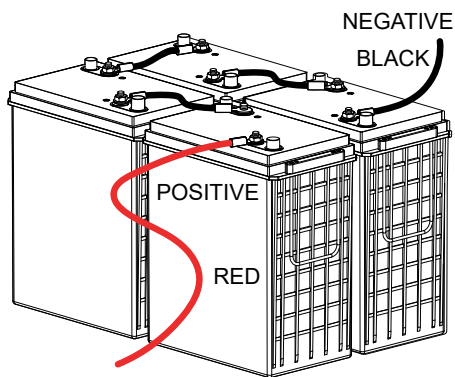

Figure 4. Battery Series Connections
**ALWAYS** be sure the battery cables (Figure 4) are properly connected to the battery terminals as shown below. The batteries are connected in series.